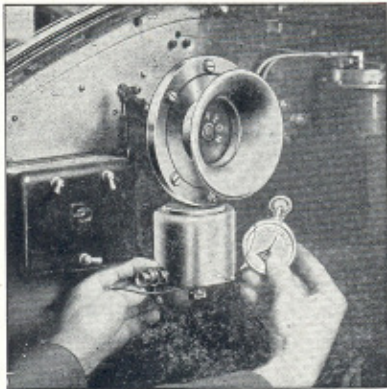

Fig. 2.
3. **FAILURE.**—It must be remembered that the Klaxon note may be affected by trouble with battery, wires or push buttons; these can be tested by applying a voltmeter to the terminals of the instrument, at the same time operating the Klaxon by pressing the button (see Fig. 2).